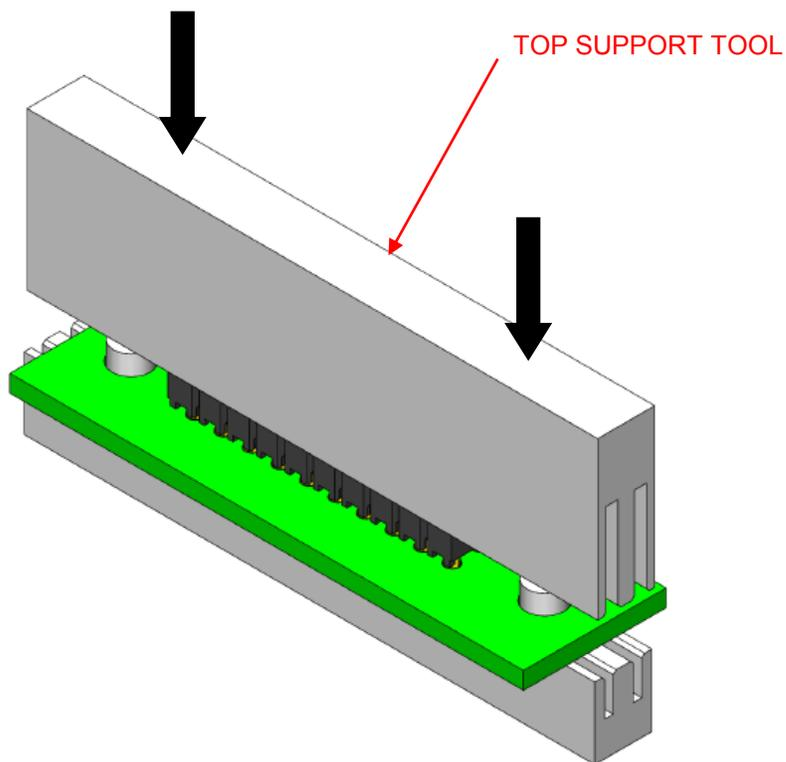

Figure 3: Top Support Tool Application to Seat Connector
- Using a top support tool (CAT-PT-PH-1XX-X-T) & a insertion press, apply force to the top support tool as shown in figure 3.